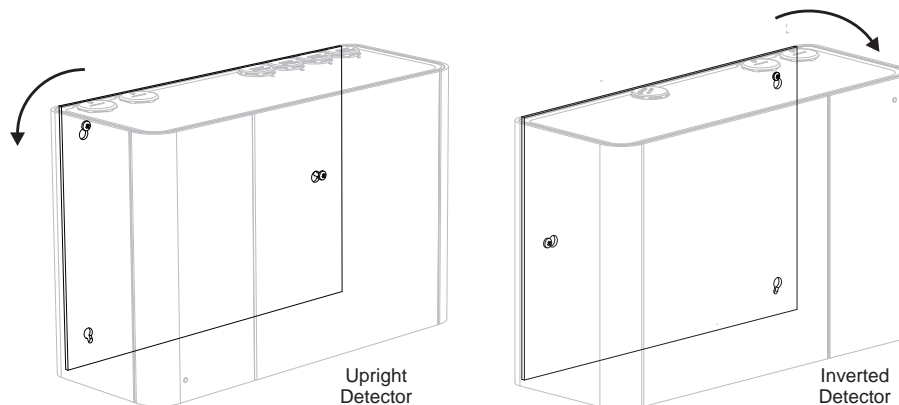

Figure 4-30: Rotate the detector
- Rotate the detector anticlockwise, or clockwise for an inverted detector, to lock the detector on to the screw (Figure 4-30).